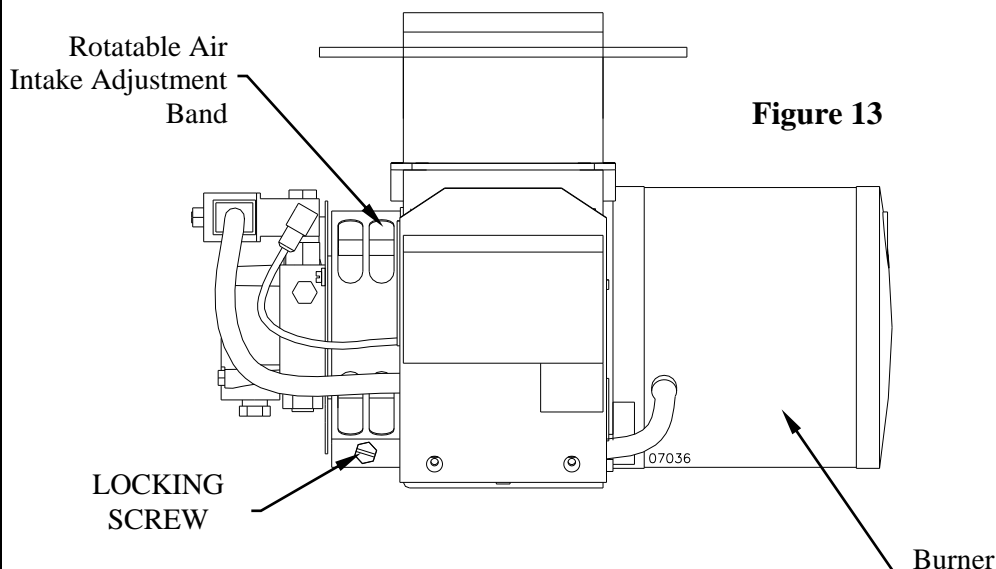

Figure 13
3. Locate the air intake adjustment band as shown in Figure 13 below.